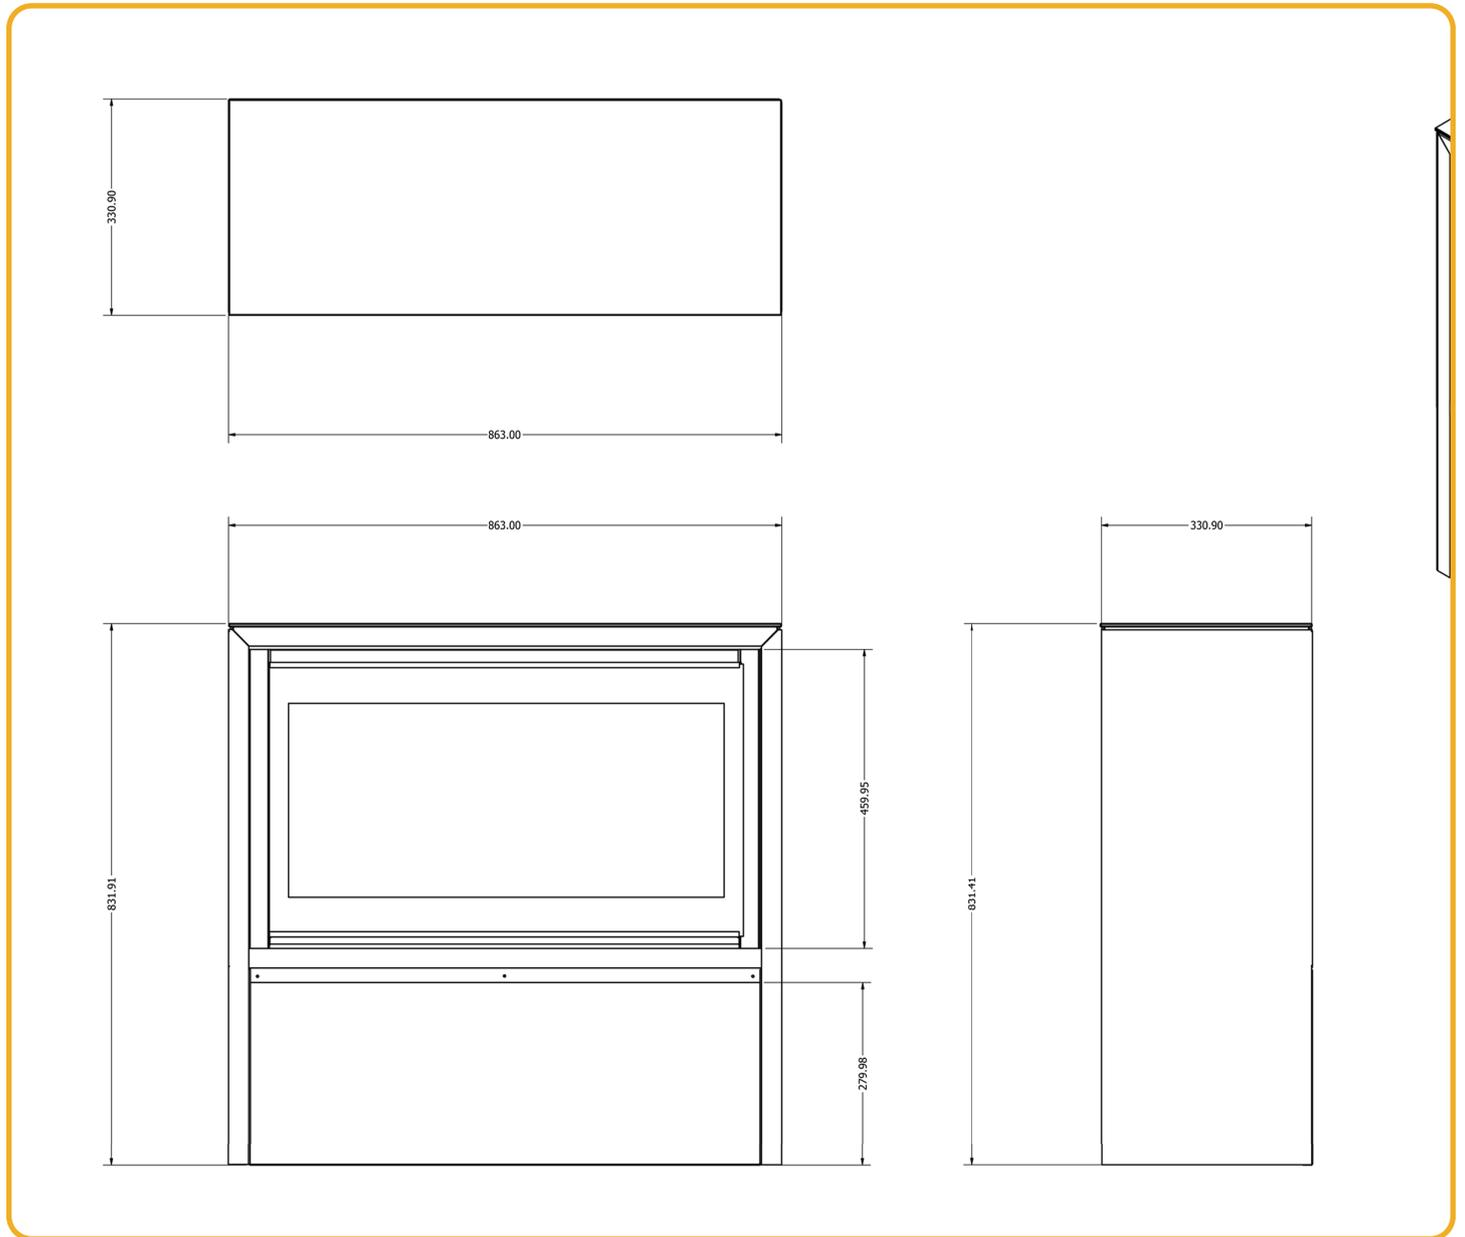

Figure.12.1 | Kudos-e dimensions
- Make sure your fireplace is up-to-date. If you see a 'Update' icon in the top right of the fire press it. See Figure 12.1